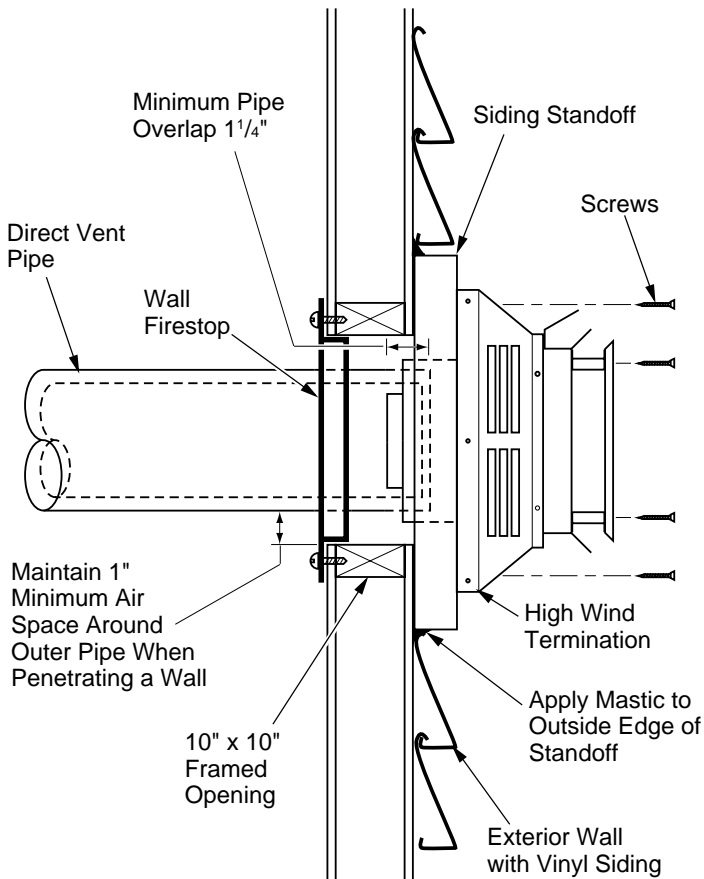

Figure 13 - Typical Horizontal Termination Cap Mounting with Additional Siding Standoff Installed
9. **Combustible Exterior Wall Only:** Slide wall firestop against interior wall surface and attach with screws provided. See Figure 13, page 10 for horizontal termination details.